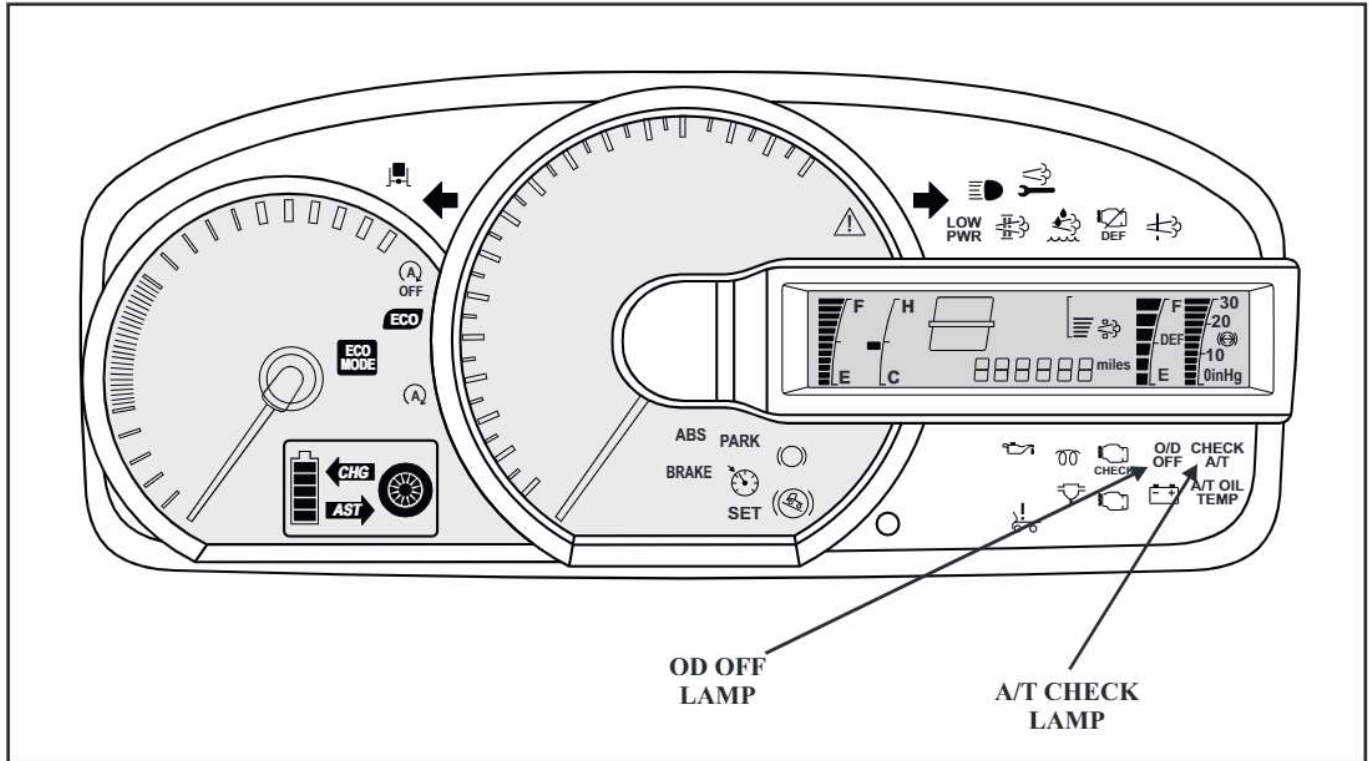

Figure 80
- 4 - Read the flash patterns produced by the A/T Check Lamp, Refer to Figure 80.